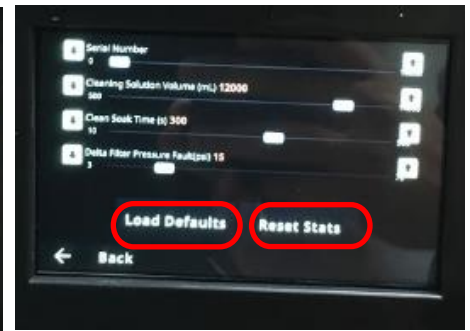

Figure 25c: Production Tools Screen with Load Defaults and Reset Stats Circled.
- e. Select LOAD DEFAULTS. **See Figure 25c.**
- f. Select RESET STATS. **See Figure 25c.**
- g. Select BACK. **See Figure 25c.**